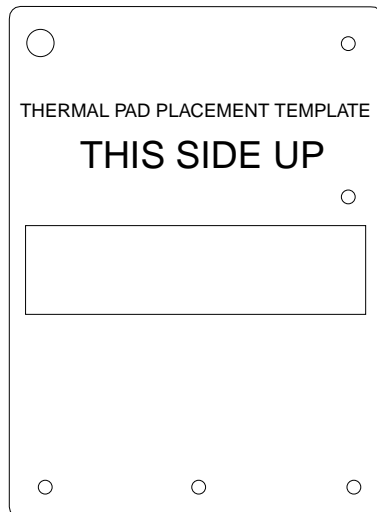

FIGURE 3 Sun Enterprise E10000 Thermal Pad Placement Template
1. **Install the thermal pad placement template on the Sun Enterprise 10000 system board in place of the processor (FIGURE 3).**
3. **Center the thermal pad in the opening of the template for a Sun Enterprise 10000 system board (FIGURE 3). Center and place each thermal pad directly on the exposed metal layer strip of the Sun Enterprise 6x00/5x00/4x00/3x00 CPU/memory board.**